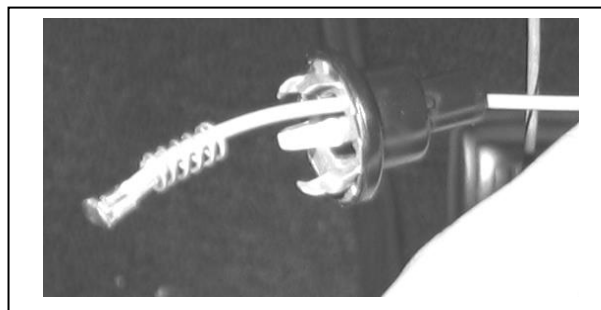

Figure 8.10B Lamp Socket Assembly
- 8.10.3** This kit has a bag containing 30 Mopar lamp socket terminals. These terminals fit all lamp socket housings through out the entire vehicle. Follow these instructions for proper installation and refer to **Figure 8.10B**: